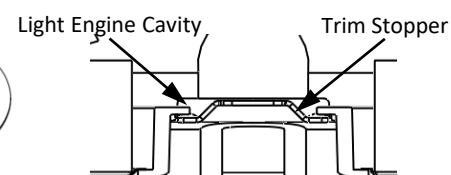

Fig.4
2. Rotate clockwise or counterclockwise to raise trim stopper and adjust as necessary to ensure that trim stopper is into the cavity of the light engine(Fig.4) and ensure there is no more than 0.03" recessed from ceiling (Fig.2).